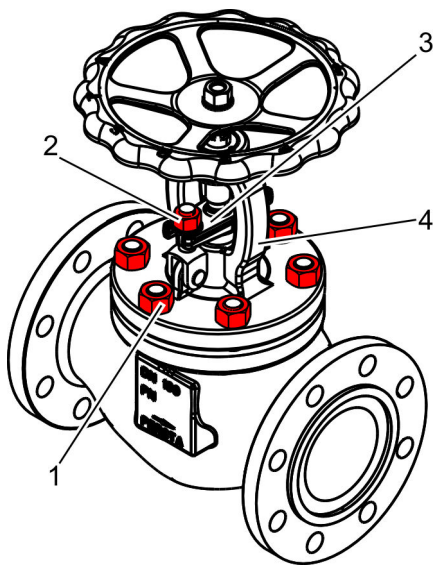

Fig. 12: Removing nuts
Use the hoist to safeguard the bonnet (Fig. 12/4) from falling off of the body.
3. ➤ Ensure that the bonnet (Fig. 12/4) and body cannot be lifted by the hoist.
Loosen and remove the nuts (Fig. 12/1) on the bonnet (Fig. 12/4).
5. ➤ Loosen and remove the nuts including washers (Fig. 12/2) on the gland follower flange (Fig. 12/3).